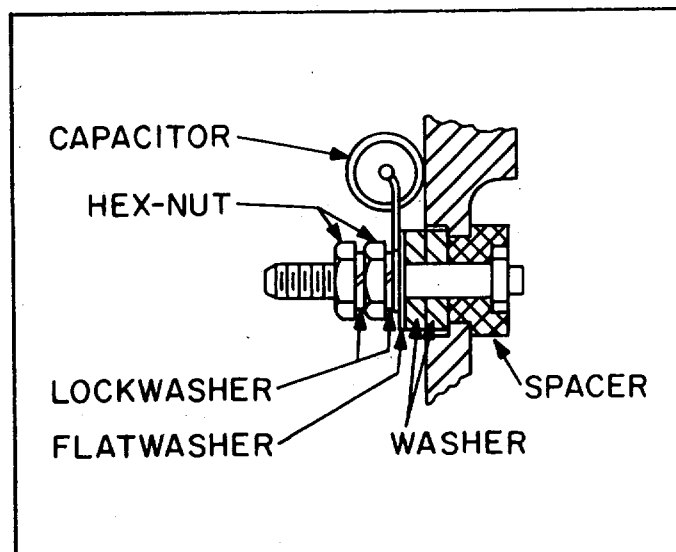

Figure 2-10A
4. With reference to Figures 2-10A and B, assemble brush terminal insulators and install to housing using insulators and hardware shown. The RFI capacitor used on the ALV-9407 only, should also be installed at this time, as shown in Figures 2-10A and B.